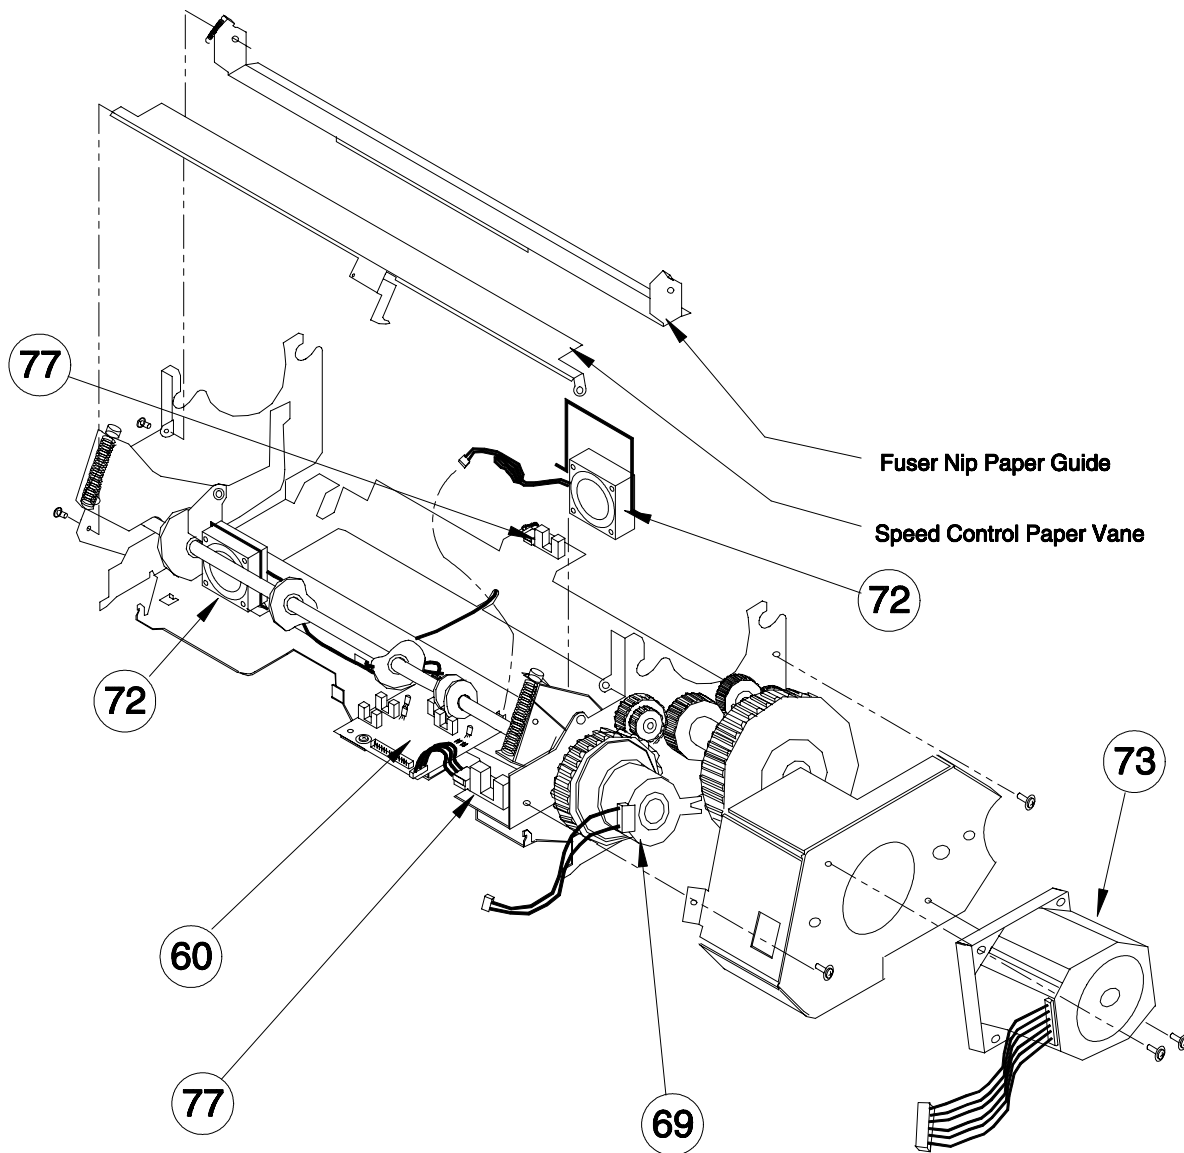

Figure 4c. Fuser Base Assembly
* See Figure 4c for disassembly of fuser base assembly.